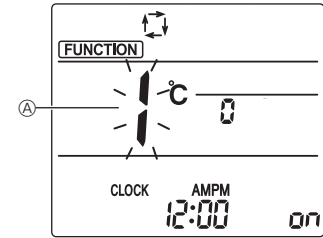
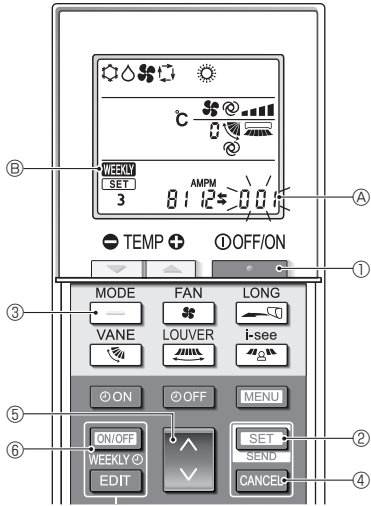

Fig. 6-5
Fig. 6-7
- Press the **ON/OFF** button ⑧.
- Each time the **ON/OFF** button ⑧ is pressed, the setting switches between **ON** and **OFF**.
- Press the **SET** button ③.
- The function No ④ blinks (Fig. 6-5)
- Press the **MENU** button ②.
6.9.8. How to disable Auto mode operation (Fig. 6-7)
1. Press the **POWER** button ① to stop the air conditioner.
2. Press the **SET** button ② for 5 seconds.
3. Press the **UP/DOWN** button ④.
4. Completing the settings (Fig. 6-7)
- Press the **SET** button ② for 5 seconds.